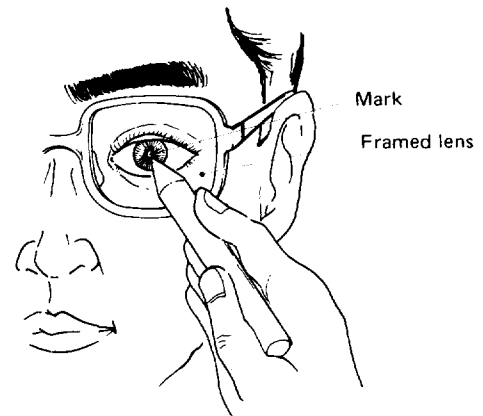

Fig. 7
- Mark the position of the pupil center of the spectacle wearer's eye on the lens while the spectacle is worn. (Fig. 7)